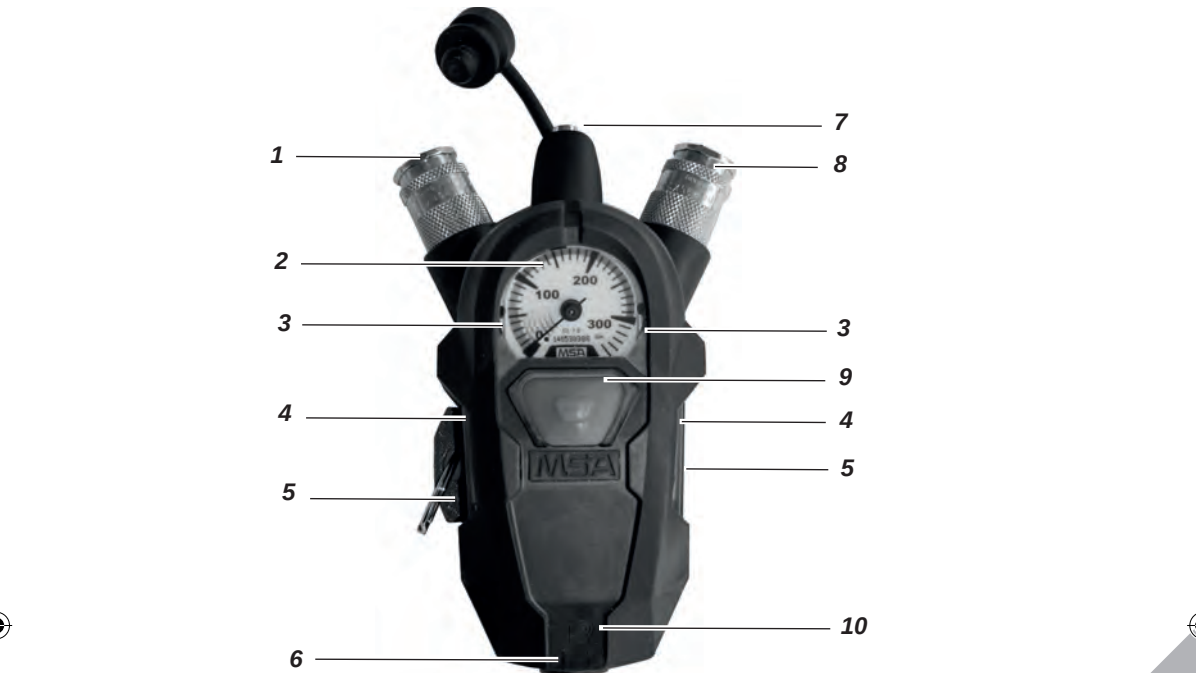

Fig. 1 Overview SingleLine SCOUT
The SingleLine SCOUT (see Fig. 1) is connected at the end of the SingleLine of an applicable MSA SCBA. It consists of the pressure gauge (2), the coupling for the lung governed demand valve (8) as well as an acoustic warning device (7) (signal whistle). It triggers a continuous warning signal when the cylinder pressure drops below 55 ± 5 bar. The second connection (1) connects a second lung governed demand valve (e.g. rescue kit or RespiHood).